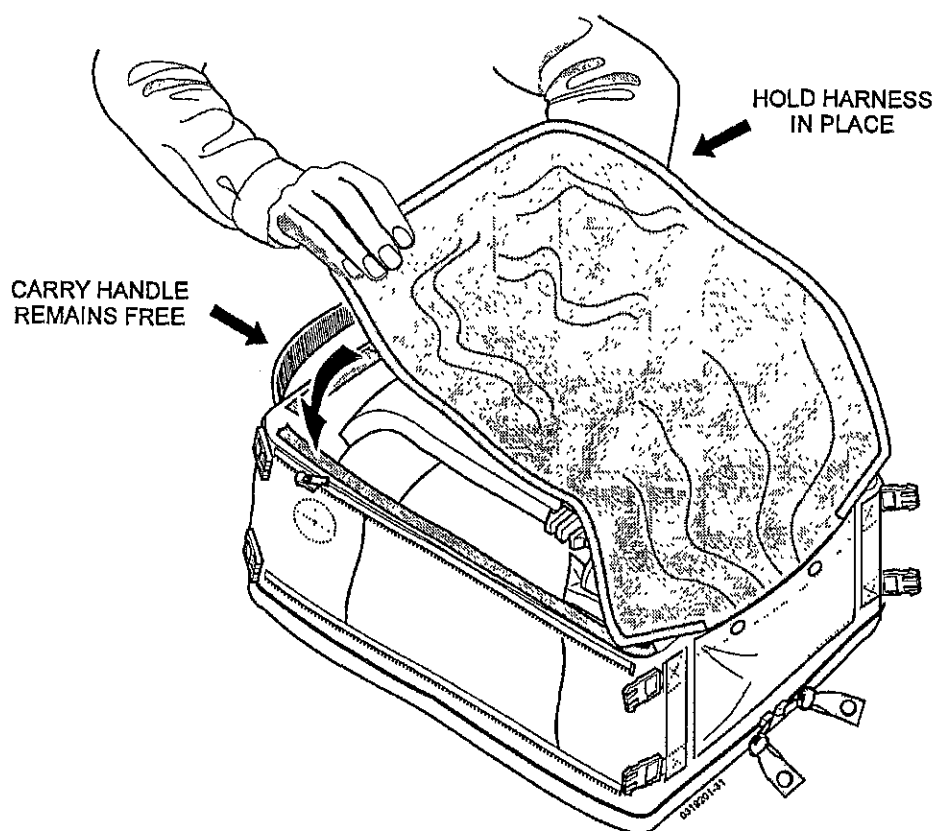

Fig 17 Manpack station - closing the transit cover
72.8.3 Refer to Fig 17. With one hand holding the harness in the folded position, use the other hand to draw the transit cover over the harness. Using the Velcro strips, secure the transit cover to the carry container.